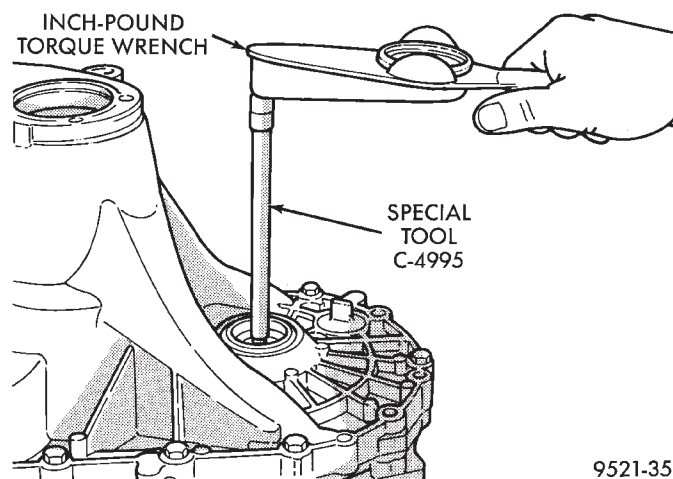

Fig. 86 Checking Differential Bearing Turning Torque
(7) The shim required for proper bearing preload is the **total of end play, plus (constant) preload of 0.18mm (0.007 in.)**. Never combine shims to obtain the required preload.
(8) Remove case bolts. Remove clutch bellhousing differential bearing cup. Install shim(s) selected in Step Step 7. Then press the bearing cup into clutch bellhousing.
(9) Install clutch bellhousing. Install and torque case bolts to 26 N·m (19 ft. lbs.).
(10) Using Special Tool C-4995 and an inch-pound torque wrench, check turning torque of the differential assembly (Fig. 86). **The turning torque should be 6 to 12 in. lbs. If the turning torque is too high, install a 0.05mm (0.002 inch) thinner shim. If the turning torque is too low, install a 0.05mm (0.002 inch) thicker shim.**